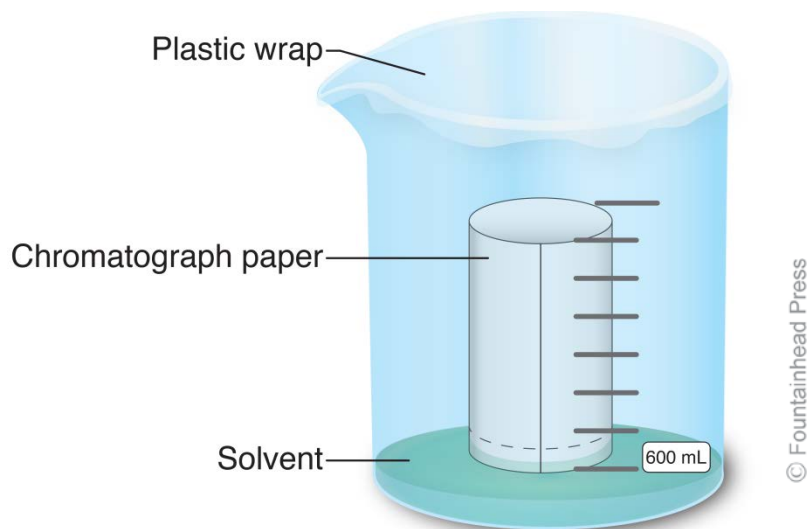

Figure 2. Chromatography developing chamber.
3. Carefully pour enough solvent to cover the bottom of the 600-mL beaker (10–15 mL). Carefully roll the chromatography paper into a cylinder and secure it at the top with a paper clip or staple. Place the spotted paper into the beaker (with the spotted end at the bottom) so that the sides of the paper do not touch the walls of the container. Be sure that the bottom edge of the paper is wetted, but that the spots are above the level of the solvent. Cover the beaker with the plastic wrap. Your paper chromatography chamber with the spotted paper should resemble the assembly in Figure 2.